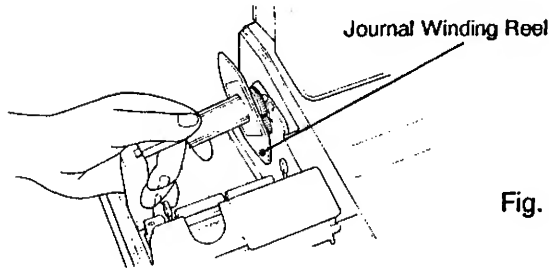

Fig. 1
2. Remove the Paper Cover, and remove the Journal Winding Reel. (Fig. 1)